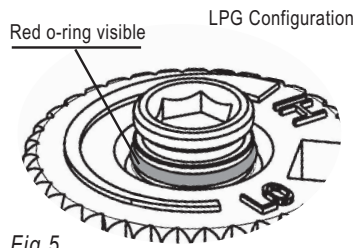

Fig.5
- 16) Verify that if the conversion is from NG to LPG, the screw must be re-assembled with the red o-ring visible (Fig. 5).